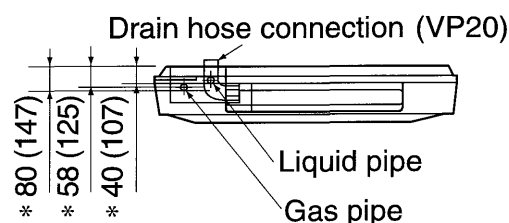

Fig. 2
1. Relation of holes for indoor unit, suspension bolt position, piping and wiring. (Refer to Fig. 2)